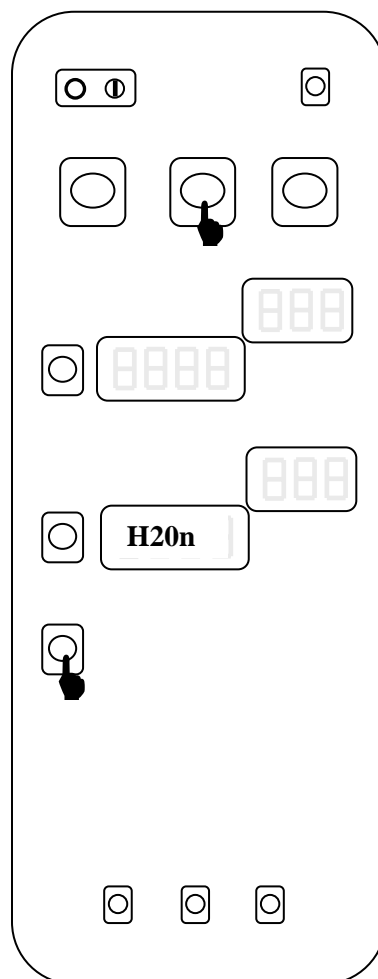

Fig. 22
- Combi cycle, utility buttons (fig. 22): activation of water valve of the cleaning system (**H200** appears at the beginning with pressure switch in open circuit, **H201** with closed circuit and water flowing at sufficient pressure)